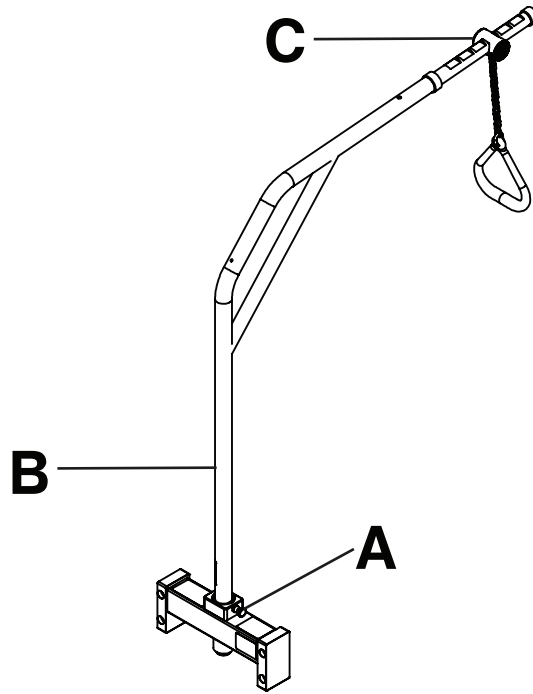

Figure 26 – Adjusting the patient helper
1. Pull the patient helper knob (A) and rotate the lifting pole (B) until the desired position (Figure 26).
2. Release the patient helper knob (A) and rotate the lifting pole (B) until the knob locks in position (Figure 26).
3. Lift the trapeze hanger bracket (C) and move it forward or backward until the desired position (Figure 26).